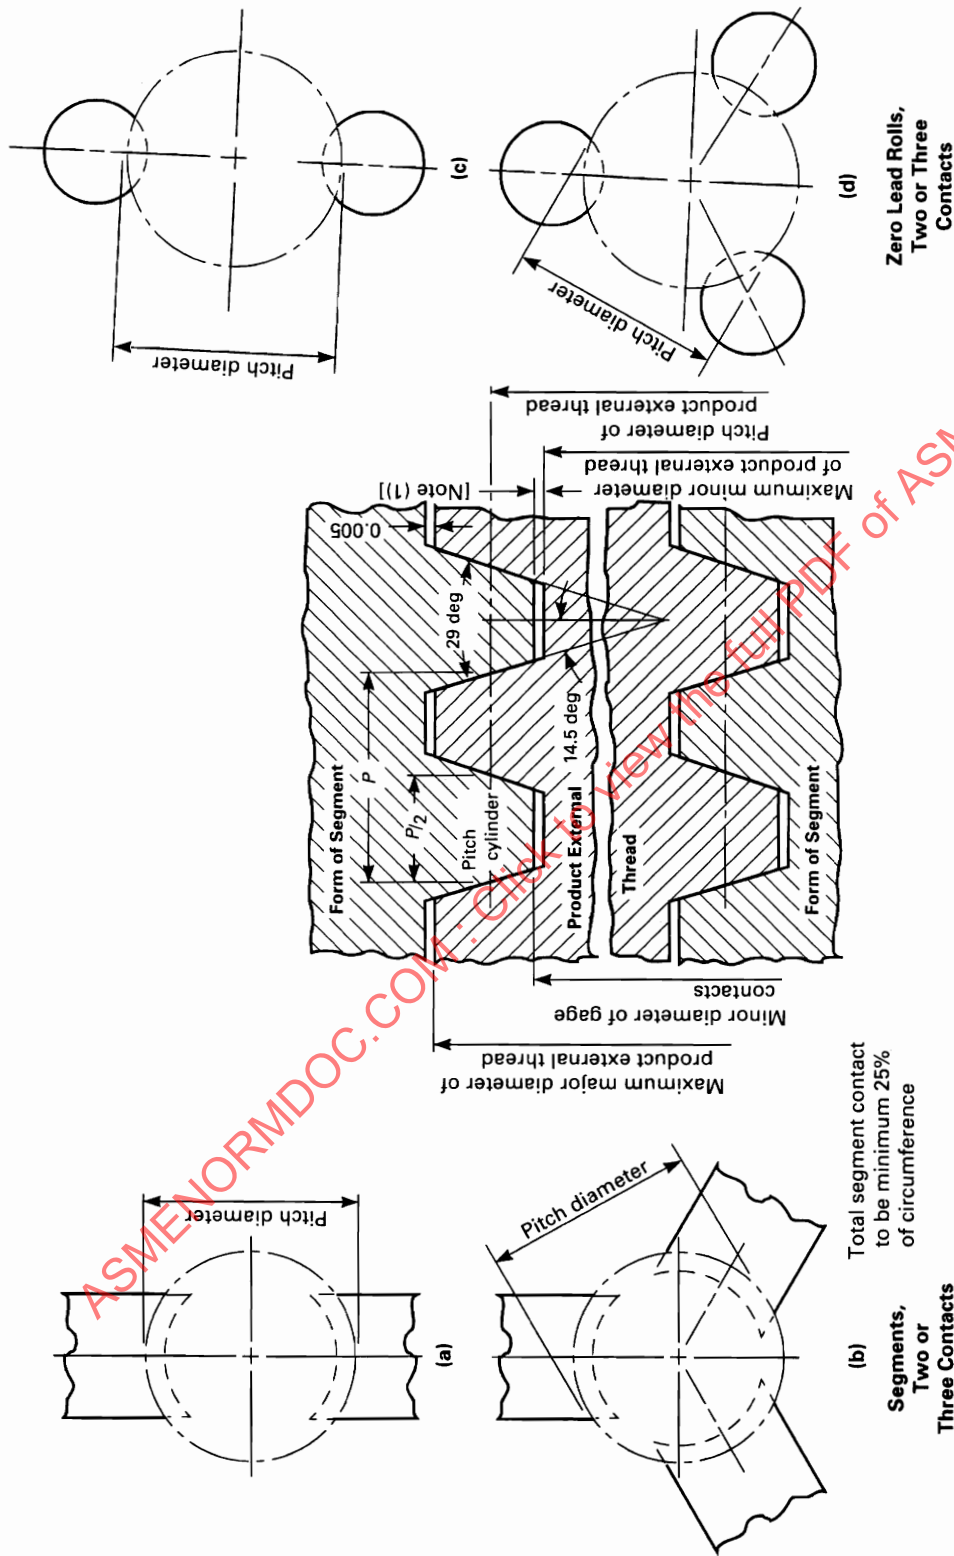

FIG. 8 INDICATING THREAD GAGES —
(a) *Single-Element Lead Variation Differential Gaging.* The lead variation differential is the difference in indicator readings (Z-Y) illustrated in Fig. 17. The two readings are taken without rotating the external product thread. The (Z) reading is made with the maximum-material Go functional indicating gages illustrated in Fig. 8 and the (Y) reading is made with the full-form single cone and vee indicating gage illustrated in Fig. 18. The lead differential shall not exceed the specified percentage of pitch diameter tolerance.
(c) *Cumulative Form Differential Gaging.* The cumulative form differential is the difference in indicator readings (Z-X) illustrated in Fig. 17. The (Z) reading is the maximum reading taken around and along the external thread. The (X) reading is the minimum reading taken around and along the external thread. (Z) reading is taken with functional gage (see Fig. 8) and the (X) reading is taken with the pitch diameter gage (see Fig.